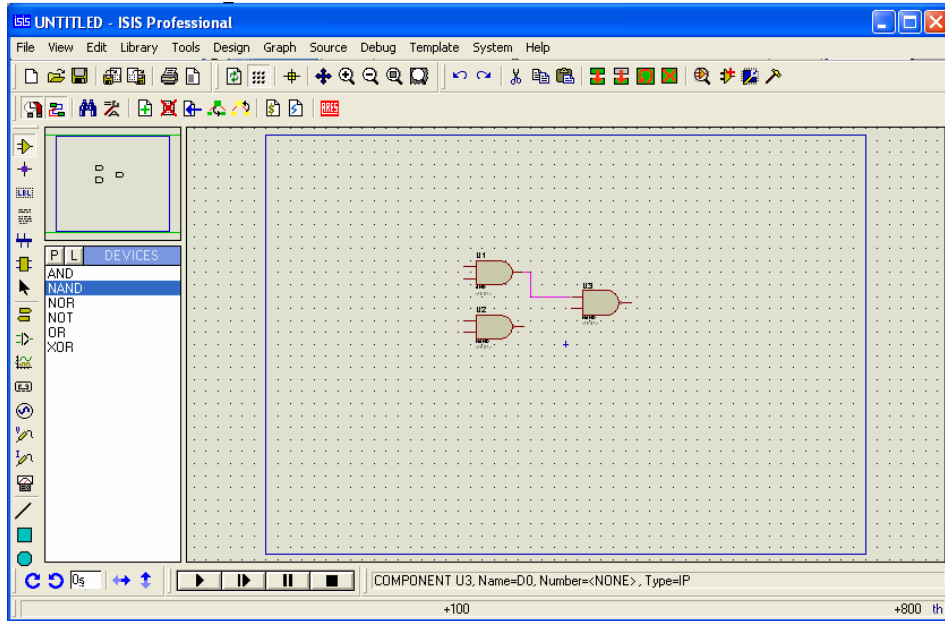

Figure 8
3. To wire the device together, click at the source pin of the device and then move mouse cursor to the destination pin of the device. In this step the pink line will be appear and it will be the wire of the circuit after click mouse on the destination pin of the circuit (as shown in figure 8)